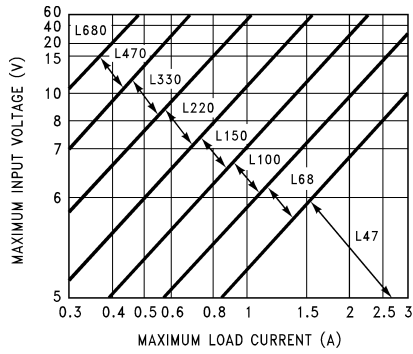
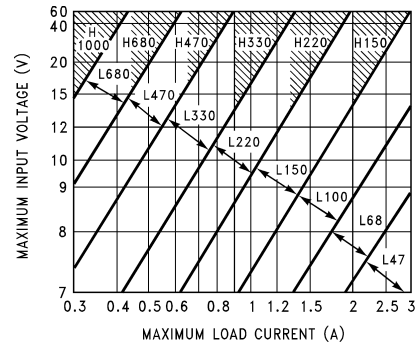
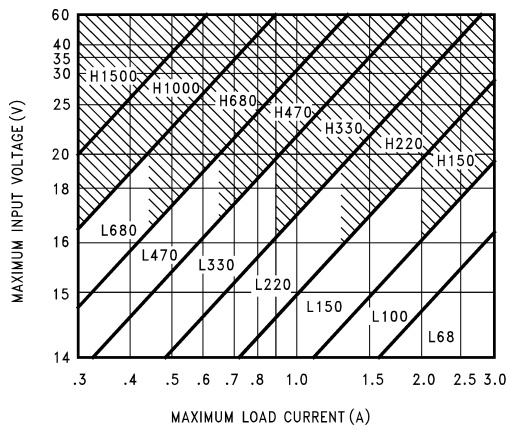
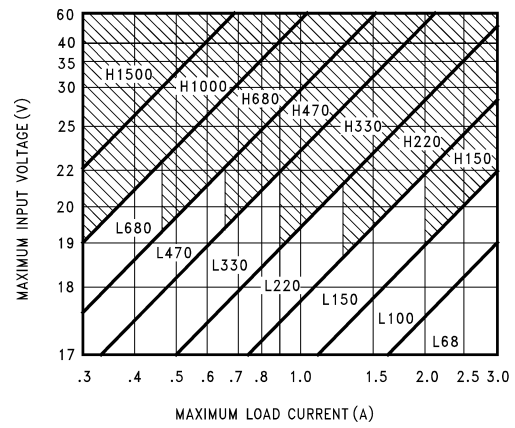

Figure 8-4. LM2576(HV)-3.3
Figure 8-5. LM2576(HV)-5.0
Figure 8-6. LM2576(HV)-12
Figure 8-7. LM2576(HV)-15
The inductor value selection guides in Figure 8-4 through Figure 8-8 are designed for buck regulator designs of the continuous inductor current type. When using inductor values shown in the inductor selection guide, the peak-to-peak inductor ripple current is approximately 20% to 30% of the maximum DC current. With relatively heavy load currents, the circuit operates in the continuous mode (inductor current always flowing), but under light load conditions, the circuit is forced to the discontinuous mode (inductor current falls to zero for a period of time). This discontinuous mode of operation is perfectly acceptable. For light loads (less than approximately 300 mA), it can be desirable to operate the regulator in the discontinuous mode, primarily because of the lower inductor values required for the discontinuous mode.
- Select the correct Inductor value selection guide from Figure 8-4, Figure 8-5, Figure 8-6, or Figure 8-7. (Output voltages of 3.3 V, 5 V, 12 V or 15 V respectively). For other output voltages, see the design procedure for the adjustable version. Use the selection guide shown in Figure 8-5.
3. Identify the inductor value from the inductor code, and select an appropriate inductor from the table shown in Figure 8-4. Part numbers are listed for three inductor manufacturers. The inductor chosen must be rated for operation at the LM2576 switching frequency (52 kHz) and for a current rating of $1.15 \times I_{LOAD}$. For additional inductor information, see Section 8.1.2. Inductor value required is 100 μH from the table in Figure 8-4. Choose AIE 415-0930, Pulse Engineering PE92108, or Renco RL2444.